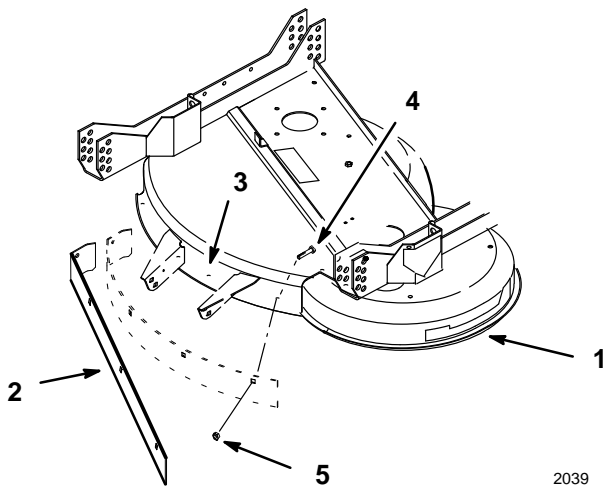

Figure 2
2. Drill a 9 mm hole through the front of the mower next to clamp at center. Secure baffle to mower at center with 5/16–18 x 3/4" (19mm) bolt, through from the inside, and a thin 5/16 lock nut (Fig. 2).
3. Working left and right from the center, drill (4) 9 mm holes in mower. Secure baffle with 5/16–18 x 3/4" (19mm) bolts, through from the inside, and secure with thin 5/16 lock nuts (Fig. 2).